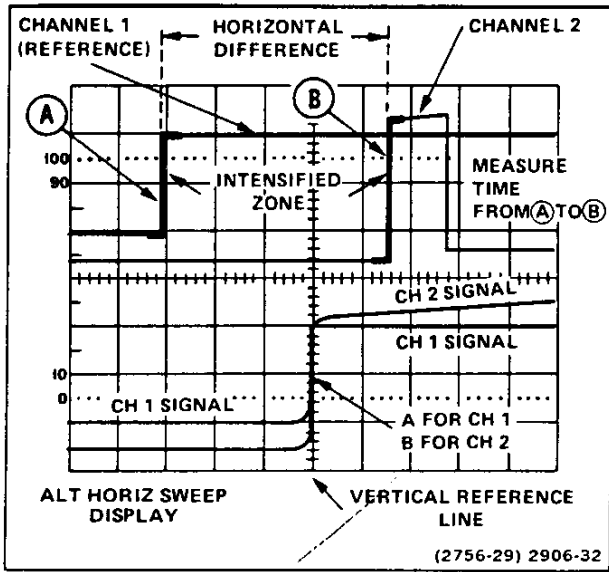

Figure 25. Time difference between two time-related pulses, differential time method.
7. Rotate the B DELAY TIME POSITION control to move the intensified zone to the rising edge of the reference pulse (on the A trace); then fine adjust until the rising portion (on the B trace) is centered at any convenient vertical graticule line (see Figure 25, point A).
10. Rotate the B DELAY TIME POSITION control to set the rising portion of the Channel 2 pulse (on the B trace) to the same vertical reference point as used in preceding step 7 (see Figure 25, Point B). Observe the A trace to position the intensified zone to the correct pulse (if more than one pulse is displayed). Do not change the setting of the Horizontal POSITION control.